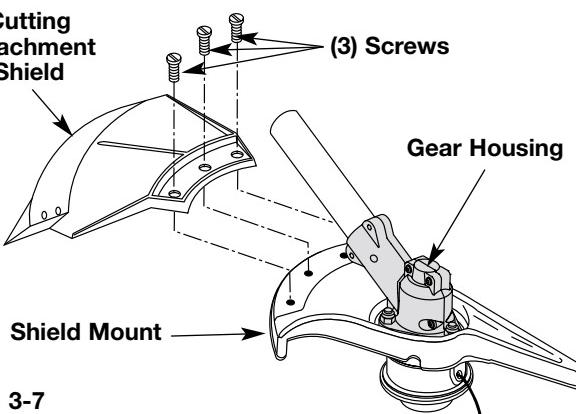

Fig. 3-7
Remove the cutting attachment shield from the shield mount by removing the three (3) screws with a flat blade screwdriver (Fig. 3-7). Store parts for future use.
Install the cutting attachment shield on the shield mount by inserting the three (3) screws into the shield mount. Tighten securely with a flat blade screwdriver (Fig. 3-7).